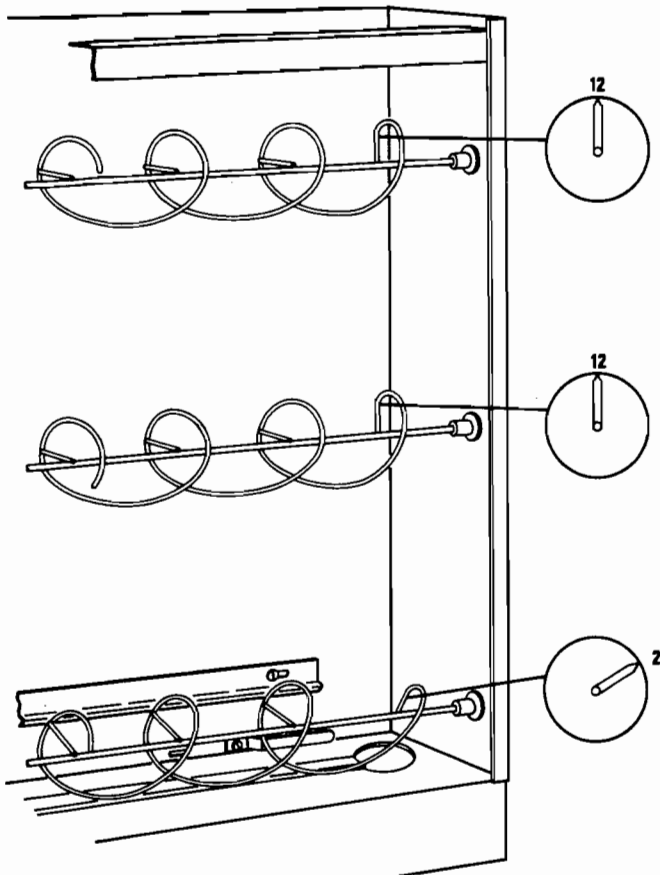

Figure 13 (Spiral adjustment)
a vertical position. Figure 13 of this section illustrates the relationship between the three spirals. When the spirals are properly adjusted the return wire at the ends of the spirals will point as shown. When the upper two (which should be adjusted to the same position) point to 12 o'clock the lower spiral should be advanced to a 2 o'clock position. This done because the lower end of a cup stack is smaller in diameter than at the top rims, where the spiral touches it. The spirals are properly set before the "Single Cupper Machine" leaves the factory and should not have to be adjusted before putting the machine into service. If they are not properly set see the "Adjustment" heading of this section.
4. Remove the nut from the right hand end of the magazine support (B).
8. Remove the nyliners (C) from the holes in which the spiral shafts had been and relocate the nyliners to the right hand set of holes.
9. Rotate the bearing plate (D) so that the screw holes for mounting are lined up to the left of the shaft, as you view it from that end. This must be done for both the top and center spirals.
12. Turn the bottom spiral until the wire on the right hand end points to 2 o'clock as previously described. (Figure 13)
13. Position the wire on the right hand end of the center spiral at 12 o'clock. (Figure 13)
16. Follow a similar belt tightening procedure for the top spiral as was performed on the center spiral. Be sure that the center and upper spirals both point in the direction of 12 o'clock while the bottom spiral points to 2 o'clock (refer to Figure 13).